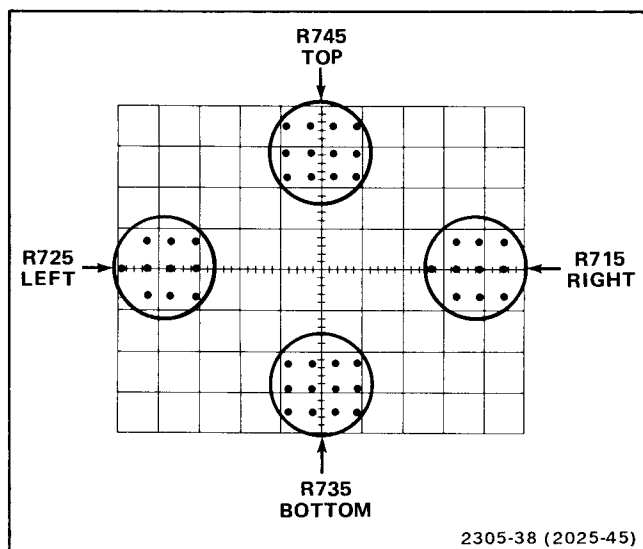

Figure 6-2. Focus adjustments corresponding to the appropriate area of the dot display.
c. **ADJUST**—Refer to Figure 6-2. Adjust the focus-correction adjustment, corresponding to the appropriate area of the dot display, for well-defined symmetrical dots. Use the X and Y offset controls of the dot generator to position the dot display to the appropriate area of the graticule.
c. **ADJUST**—Refer to Figure 6-2. Position the displayed dot to the appropriate display area and adjust the corresponding focus-correction adjustment for a well-defined symmetrical dot.
C. HORIZONTAL (X) AMPLIFIER